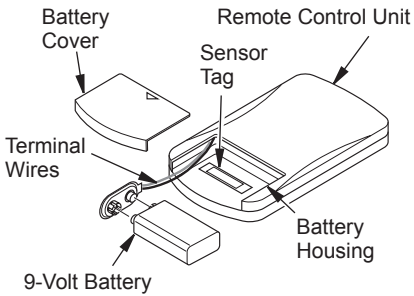

Figure 36 - Installing Battery in Hand-Held Remote Control Unit (HRC100)
6. Remove battery cover on back of hand-held remote (see Figure 36, page 20). Remove and discard sensor tag.
2. If a wall switch was installed, it must be removed from ignition control circuit for remote to work properly. Remove wire nuts from switch connection at ignition control module. Using wire nut, connect transformer (blue) wire to remaining wire connected to control terminal marked P.S.W (see Figure 36, page 18).